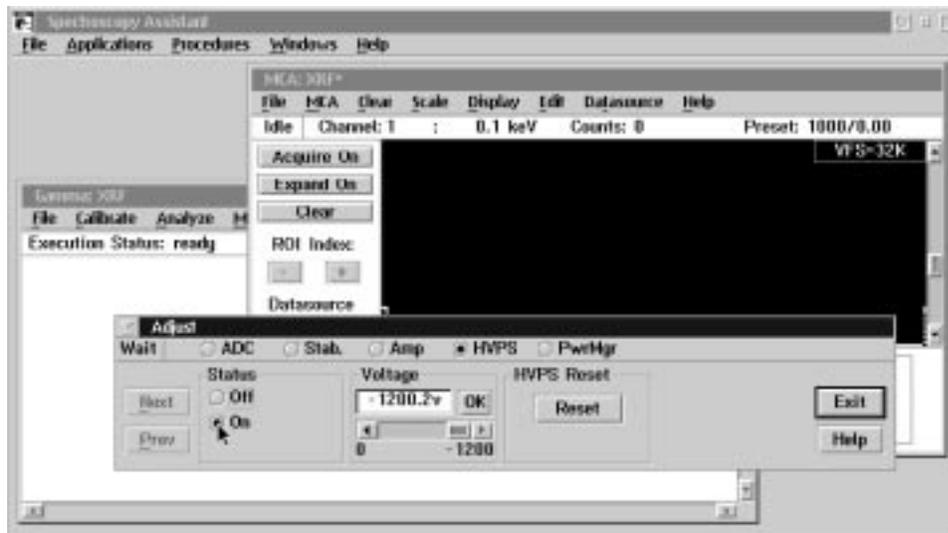

Figure 7. The “Adjust” window. Notice that the HVPS button is selected, the voltage is set to -1200.2 V, and the “On” button is selected.
11. In the “Adjust” window, select “HVPS.” Make sure the high voltage (HV) is set to -1200.2 V, then select the “On” button (see Figure 7). The word “Wait” will appear in the top left corner while the voltage is being increased at a rate of 100 V/sec. Current values for the “ADC” and “Amp” settings normally should not be changed. They are as follows: